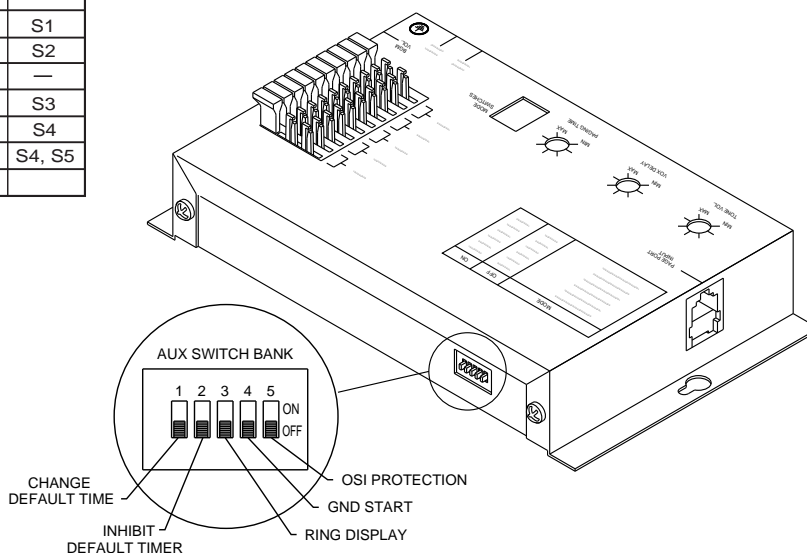

Figure 5. AUX Switch Bank Location (top edge of unit)
(On top of unit)** Certain options are available (described in Specific Instructions on pages 9 - 18) and are selected by setting DIP switches on the AUX switch bank, accessible through an opening in the top of the UPAM case. See Figure 5 (page 16) for its location on top of the unit.
4. Set AUX switch S4 to ON position (located on top edge of unit - see Figure 5 on page 16).
4. Set AUX switches S3, S4 and S5 to ON position (see Figure 5 on page 16).
Some phone systems (in particular, Centrex-type systems) may produce open-switch-intervals (OSIs) when the UPAM first answers the line. OSIs are short breaks in loop current resulting when the central office switches equipment on and off the line. The UPAM may misinterpret these OSIs as disconnect signals. It may be necessary to set AUX switch bank switches S4 and S5 in their OFF positions (AUX switches are located on top edge of unit - see Figure 5 on page 16) if the UPAM exhibits any of the following symptoms during station mode operation.